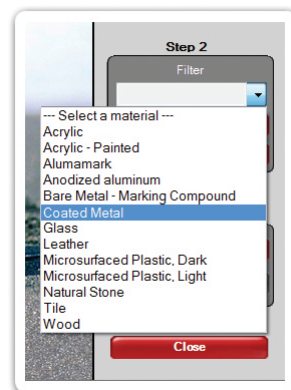

Figure 4. Material selection
STEP 2: SELECT MATERIAL – See Figures 4 and 4c